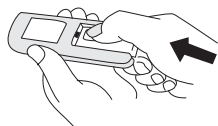

Fig 3
3. Slide back the battery cover. Fig. 3.
4. Risk of fire (fix spacing). Replace fuse only with 2.5 Amp, 125 Volt fuse.(Fig. 3)